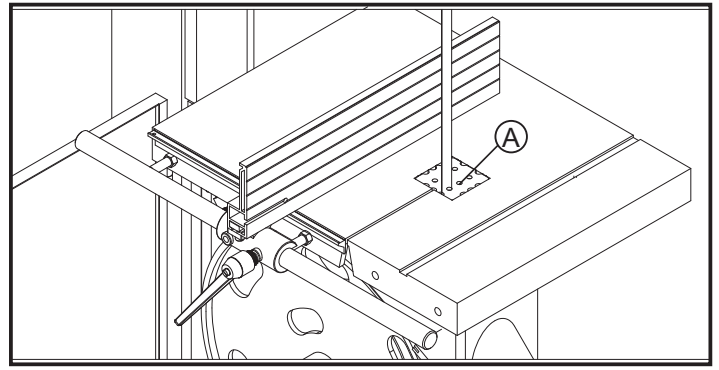
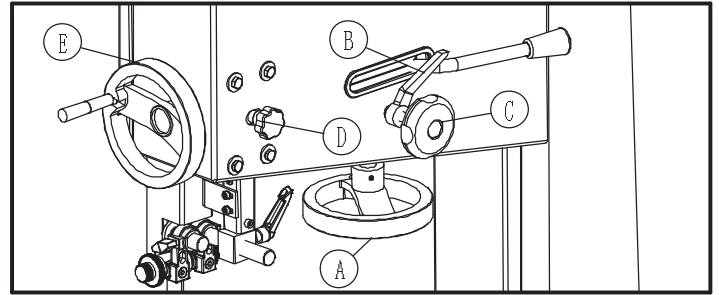

Fig.4.4.1
Fig.4.4.2
- To mount blade first remove the table insert (A of FIG.4.4.1) Place the blade onto the bandwheel checking the teeth are in a correct position, and then tighten the tension using the handwheel (A of FIG.4.4.2). The correct tension value is indicated on the tension scale inside the upper door, the indicated value corresponds to the width of the blade.
- Turn the bandwheels manually, checking that the blade does not interfere with any fixed parts and that the blade is placed correctly on the bandwheels. The points of the teeth should slightly protrude over the edge of the bandwheels. To adjust the blade position on the bandwheels slacken the locking lever( B of FIG.4.4.2), and then turn the knob(C of FIG.4.4.2): the blade will move inwards when turn the knob clockwise and the blade will move further out when turn the knob anticlockwise; A quarter of one circle is sufficient to make a noticeable displacement. Tighten the locking lever after the blade is positioned correctly.
The adjustable saw band guard should be positioned as close as possible to the workpiece. To adjust the height, release the locking knob(D of Fig.4.4.2 ) and turn the handwheel (E of Fig.4.4.2) to adjust the guard up or down. Lock the knob once the correct position of guard is obtained.